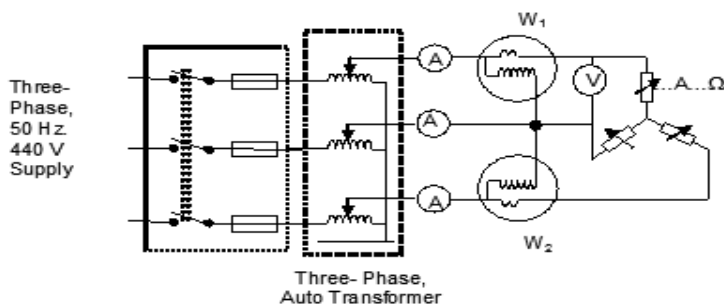

Figure 1: Measurement of power using two wattmeter
1. Make the connections as per Figure 1.